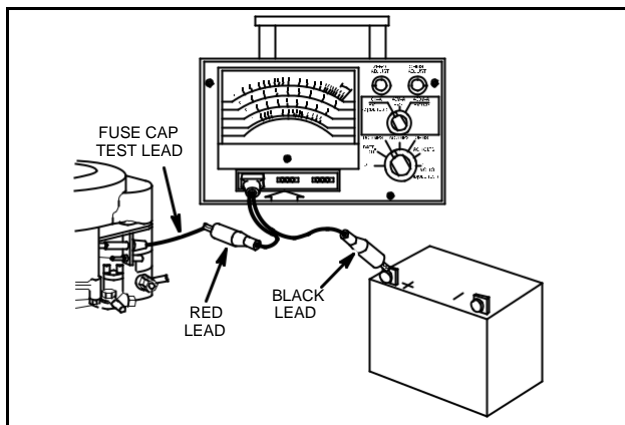

Fig. 762 – TESTING ALTERNATOR OUTPUT
5. Attach RED test lead clip to DC output terminal, Fig. 762.